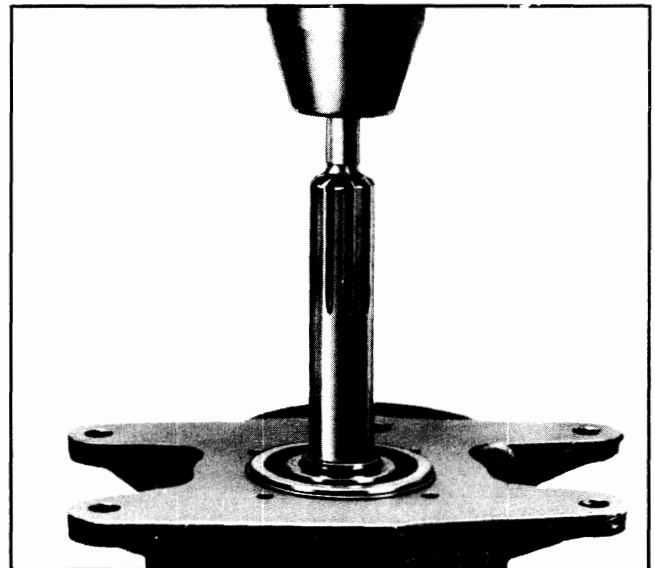

Fig. 7-24 Removing Clutch Gear Bearing
3. Support rear of case in arbor press and press main drive (clutch) gear shaft from bearing (Fig. 7-24). Tap bearing from case.